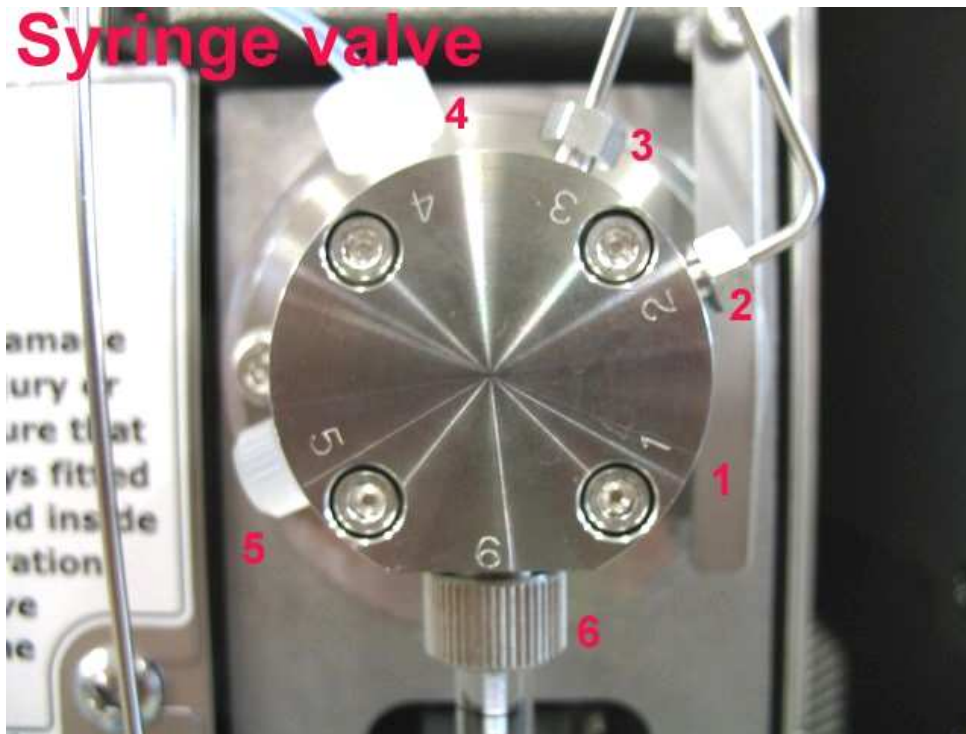

Figure 6: Fitting Positions on the Syringe Valve
7. Loosen the fitting from position **3** on the syringe valve (*Fig. 6*). Once loose, remove the stainless steel plumbing from the assembly.